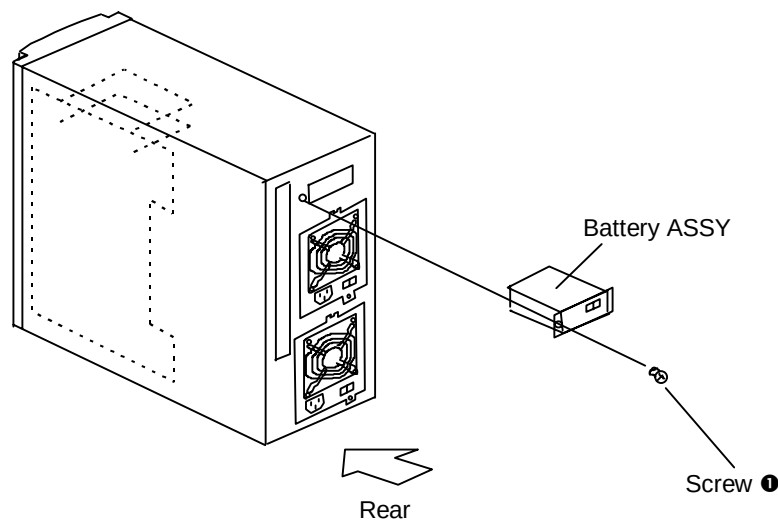

Figure 9.1 Replacing Battery ASSY
9. Replacing Battery ASSY (See Figure 9.1.)